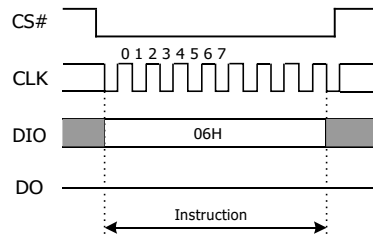

Figure 7.1 Write Enable Instruction Sequence Diagram
Instructions vary in length from a single byte to several bytes and may be followed by address bytes, data bytes, dummy bytes (don't care), and in some cases, a combination. Instructions are completed with the rising edge of edge CS#. Clock relative timing diagrams for each instruction are included in figures 7.1 through 7.5. All read instructions can be completed after any clocked bit. However, all instructions that Write, Program or Erase must complete on a byte boundary (CS driven high after a full 8-bits have been clocked) otherwise the instruction will be terminated. This feature further protects the device from inadvertent writes. Additionally, while the memory is being programmed or erased, or when the Status Register is being written, all instructions except for Read Status Register will be ignored until the program or erase cycle has completed.
The Write Enable instruction (Figure 7.1) sets the Write Enable Latch (WEL) bit in the Status Register to a 1. The WEL bit must be set prior to every Page Program, Sector Erase, Block Erase, Chip Erase and Write Status Register instruction. The Write Enable instruction is entered by driving CS# low, shifting the instruction code "06h" into the Data Input (DI) pin on the rising edge of CLK, and then driving CS# high.